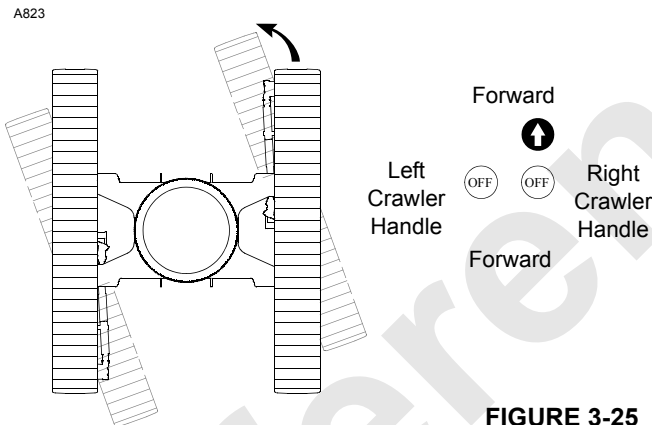

FIGURE 3-25
- Avoid sharp turns (Figure 3-25) if possible
10. To make a SHARP LEFT TURN (Figure 3-25), move right crawler handle to front from off and leave left crawler handle in off; crane will pivot about left crawler.